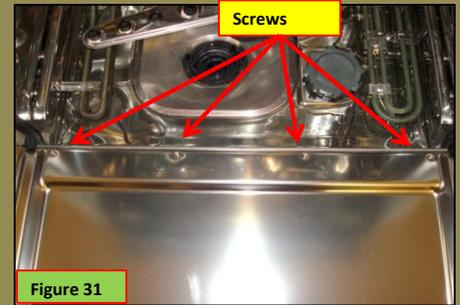

Figure 31
3. To remove the bottom seal, remove the 4 Phillips or T10 screws located on the lower inner door; see Figure 31.